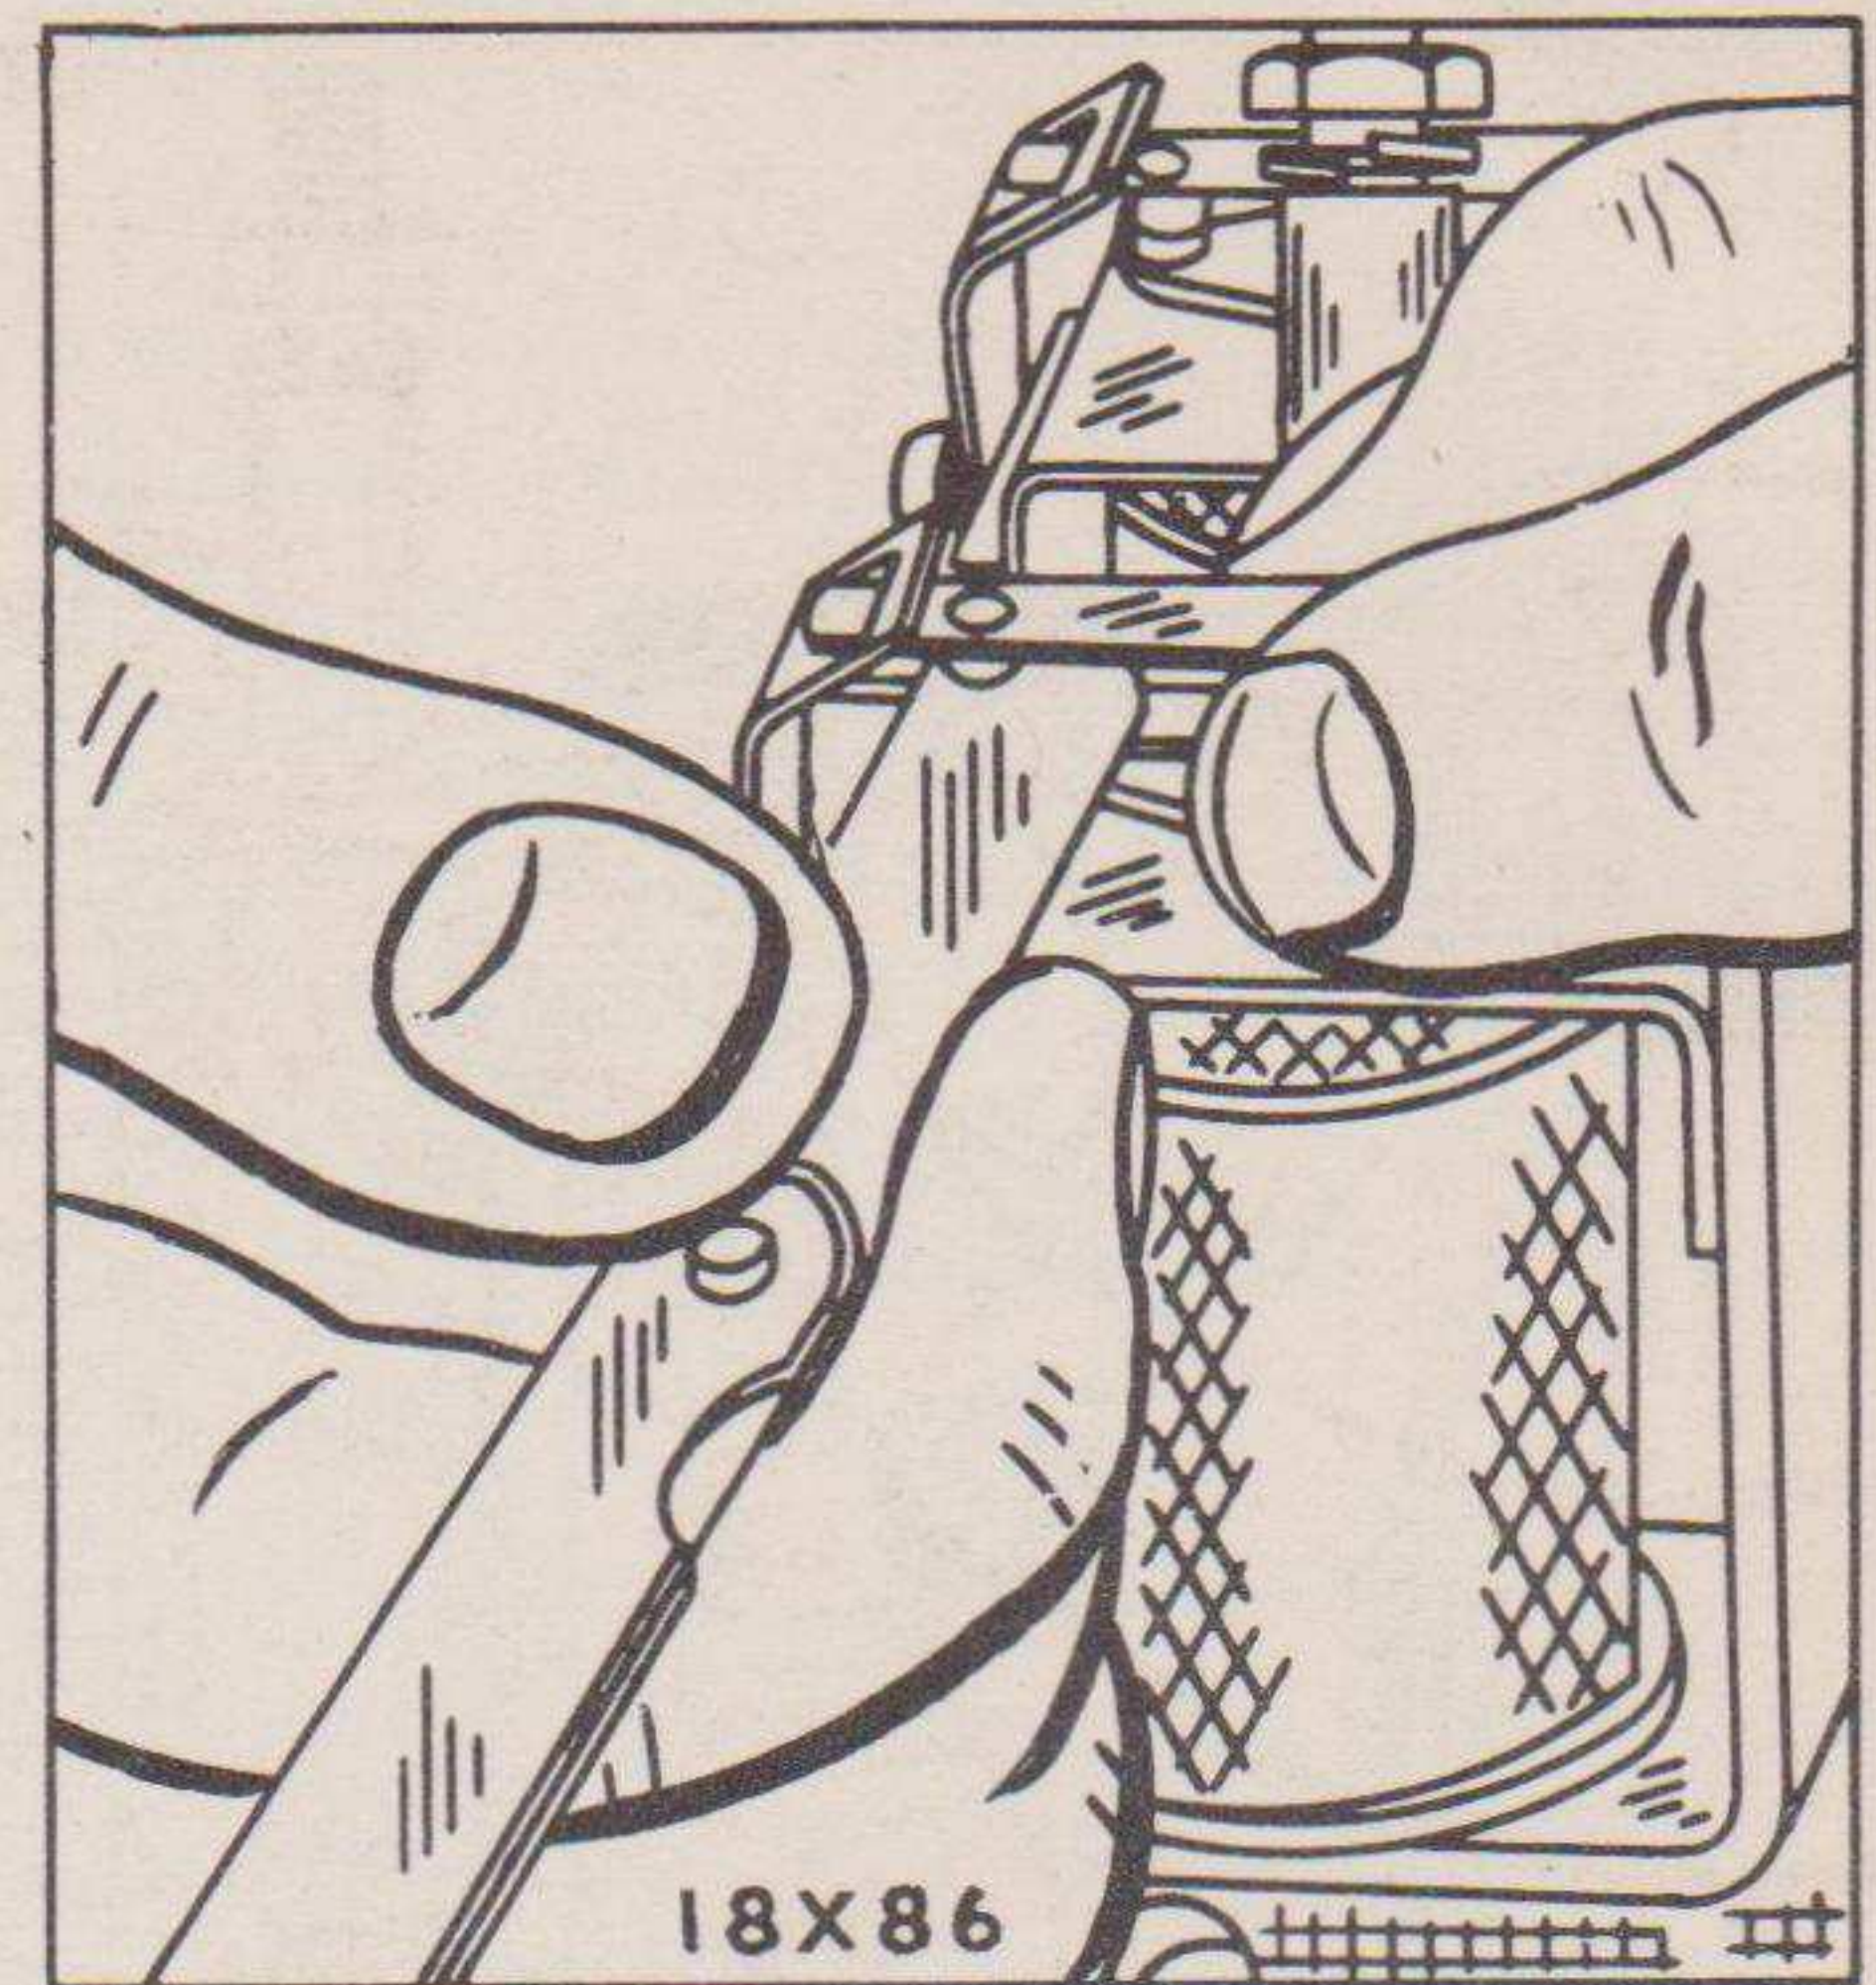

Fig. 127—Checking Contact Point Gap
- (d) Check point gap with the armature against the stop pin. See Fig. 127.
- (e) Check point gap with the armature against the stop pin. See Fig. 127.